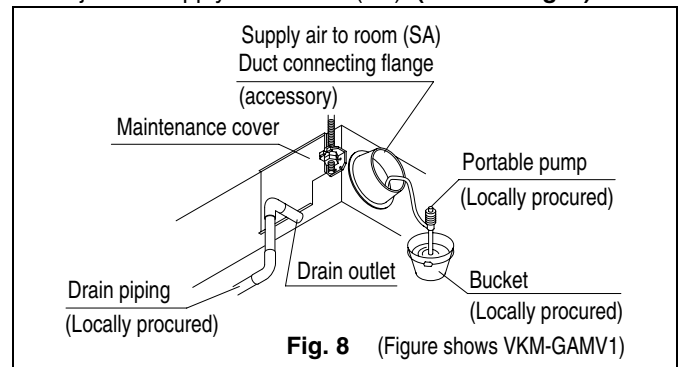

Fig. 8 (Figure shows VKM-GAMV1)
**(2) After piping work is finished, check drainage flows smoothly.**
- Test the drainage by pouring around 1000cc of water into the drain pan through the inspection hole by removing the maintenance cover (10 screws) or through the outlet duct joint of supply air to room (SA). (Refer to Fig. 8)